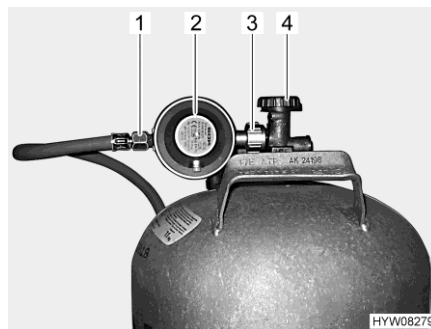

Fig. 95 Gas bottle connection
- Close the regulator tap (Fig. 95,4) on the gas bottle. Pay attention to the direction of the arrow.
- Hold the gas pressure regulator (Fig. 95,2) and open the knurled nut (Fig. 95,3) (normally a left-hand thread).
- Remove the gas pressure regulator and the gas tube (Fig. 95,1) from the gas bottle.
- Position the gas pressure regulator (Fig. 95,2) with gas tube (Fig. 95,1) on the gas bottle and tighten the knurled nut (Fig. 95,3) (normally a left-hand thread). **Do not** tighten too firmly.